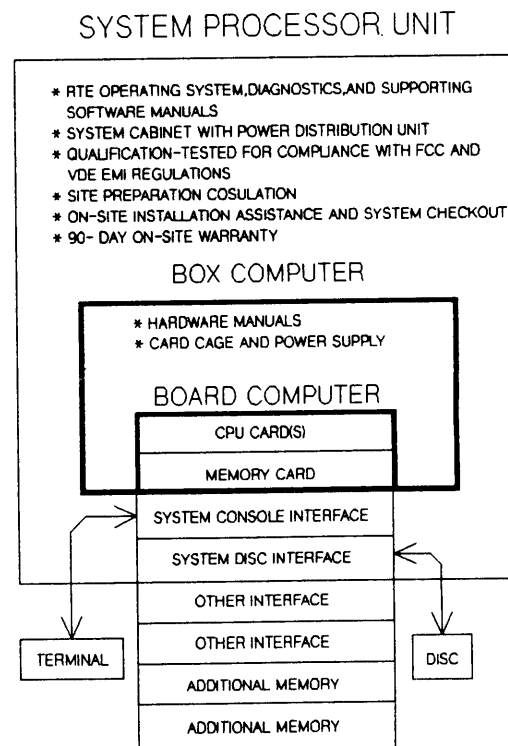

Figure 1-6. HP 1000 Integration levels
**System Processor Units (SPUs)** offer the highest level of integration of all HP 1000 products. As shown in Figure 1-6, the SPU includes the box